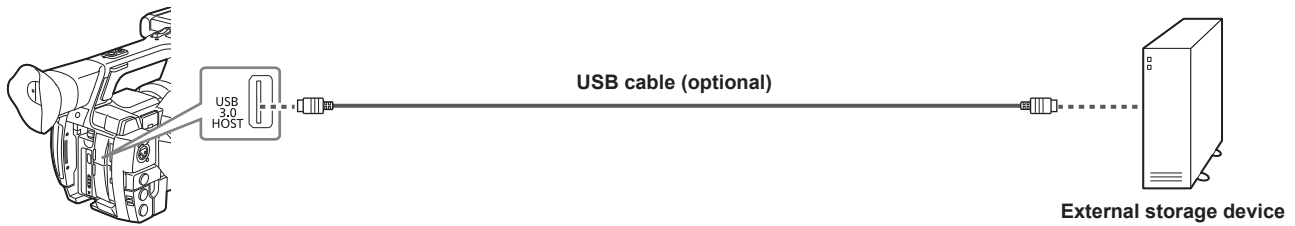

Fig. 1
**1** Connect the storage device to the <USB3.0 HOST> terminal. (Fig. 1)